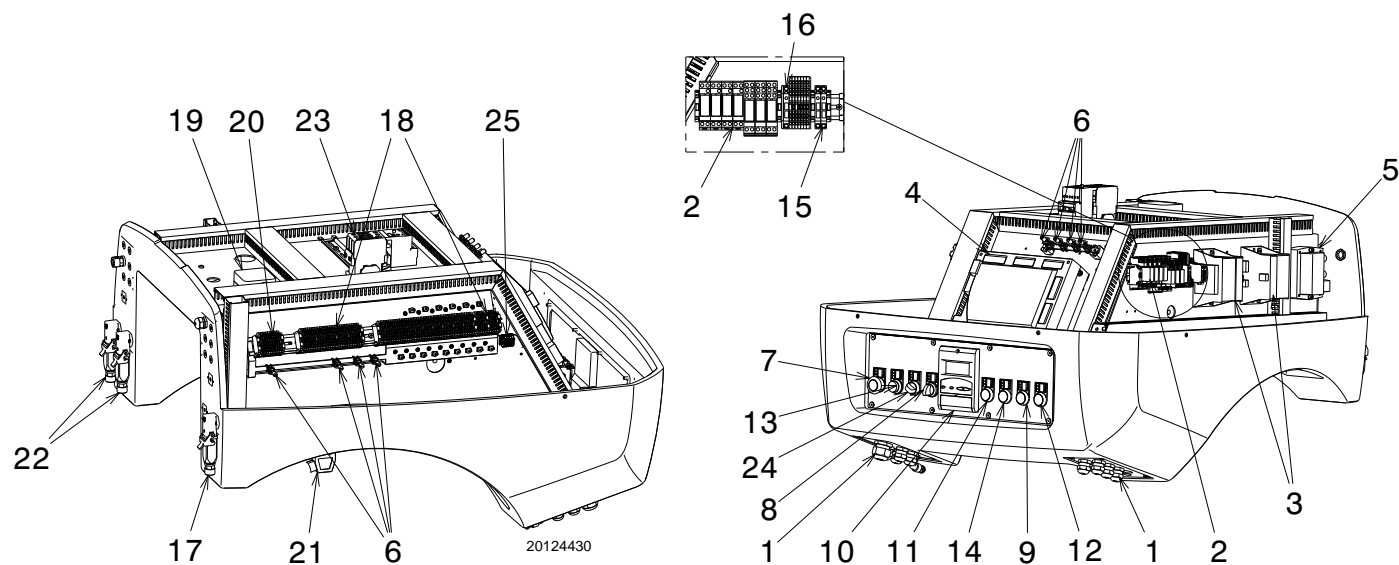

Fig. 7
- **Control box lockout:** the switching on of the button (**red led**) 13)(Fig. 7) signals that the burner is in lockout. Release by pressing button 13)(Fig. 7) or use the display.